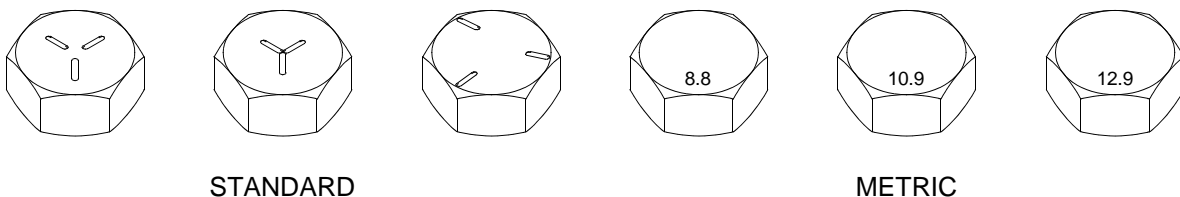

Figure 4. Bolt Head Markings
3. Determine the type of markings on the bolt you are torquing by comparing the markings on the head of the bolt with figure 4.